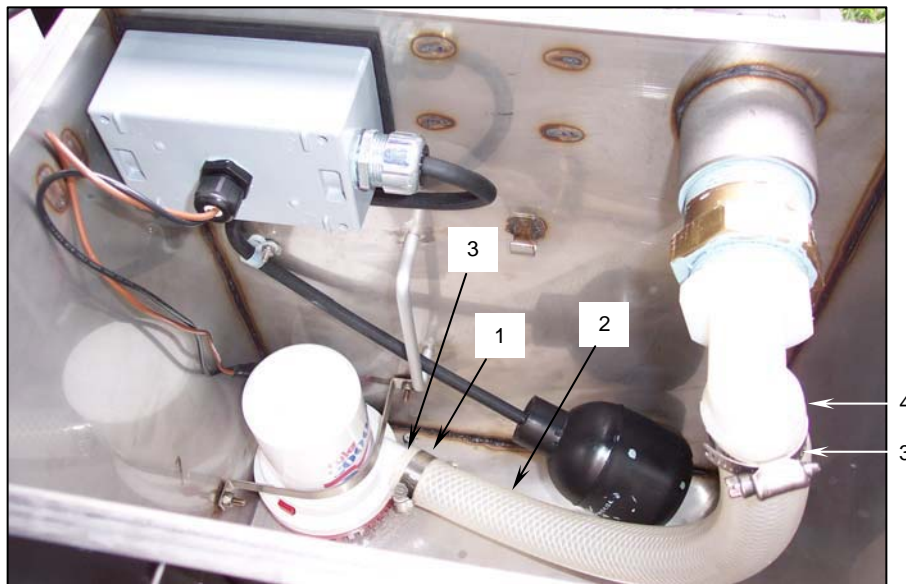

Figure 1. Replacing the Grease Separator Pump Discharge Tubing.
- a. Loosen the two hose clamps (**Figure 1, Item 1**), one at both ends of the tubing (**Figure 1, Item 2**).
- b. Loosen and remove the tubing from the pump discharge connection (**Figure 1, Item 3**) and from the hose adapter elbow (**Figure 1, Item 4**).
- a. Slide two hose clamps (**Figure 1, Item 1**) onto the tubing (**Figure 1, Item 2**).
- b. Push one end of the tubing onto the pump discharge connection (**Figure 1, Item 3**) and the other onto the hose adapter elbow (**Figure 1, Item 4**).